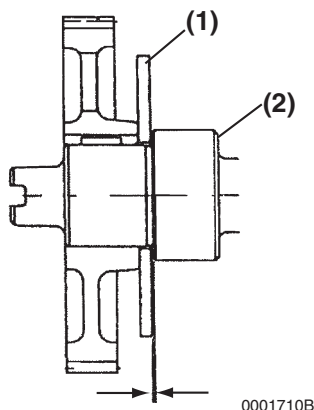

Figure 6-47
- **Method B:** Use a feeler gauge to measure the clearance between the thrust plate (**Figure 6-47, (1)**) and front camshaft bearing (**Figure 6-47, (2)**). Record the measurement. See *Thrust Bearing* on page 6-9 for the service limit.